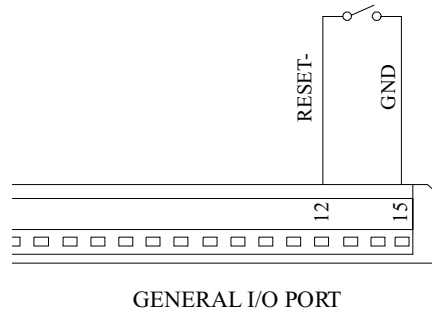

Figure 4-8. RESET Push-Button Wiring
The S251B Reader provides a connection for an external reset on pin 12 of the General Purpose Input/Output connector (B). This pin can be used reset the S251B Reader externally. You can apply an external reset to the reader by connecting a push-button to the connectors as shown in Figure 4-8.